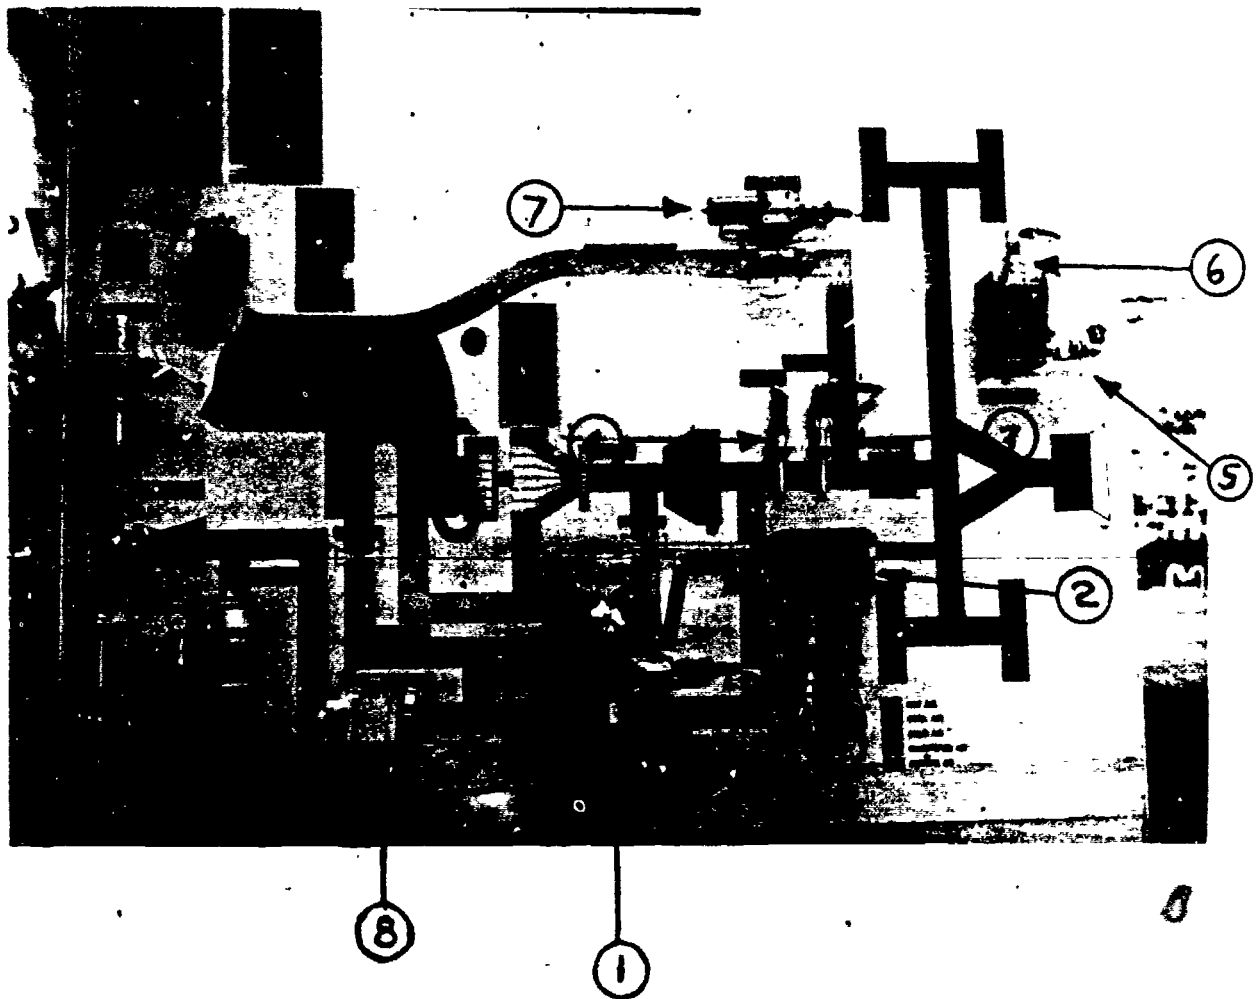

Figure 3.
a. Using the trainer and the illustrations in figure 3, locate each of the numbered items. Write the name of each of these numbered items in the blank spaces below.
(1) _____	(5) _____
(2) _____	(6) _____
(3) _____	(7) _____
(4) _____	(8) _____